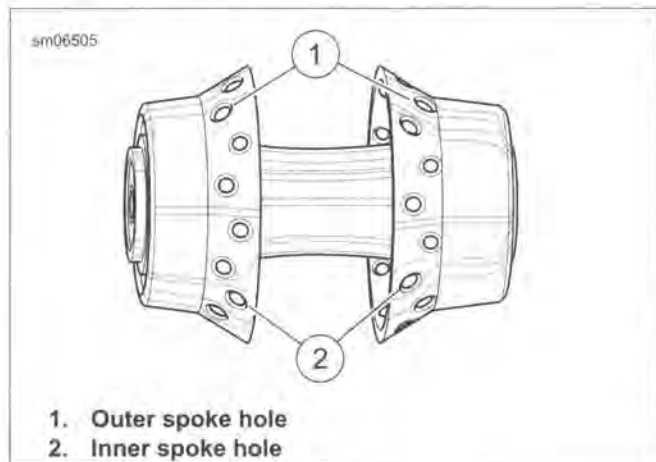

Figure 2-25. Angle Flange Hub
- See Figure 2-25. The following procedure is valid for wheels that use an angle flange hub regardless of rim style or diameter.